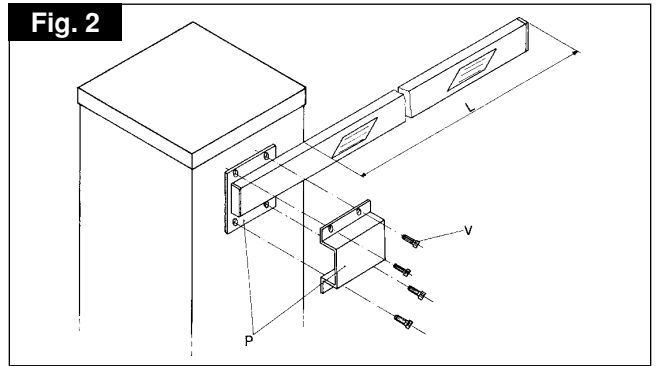

Fig. 4
3) ARRANGEMENT OF ELECTRICAL SYSTEM (see fig. 4)